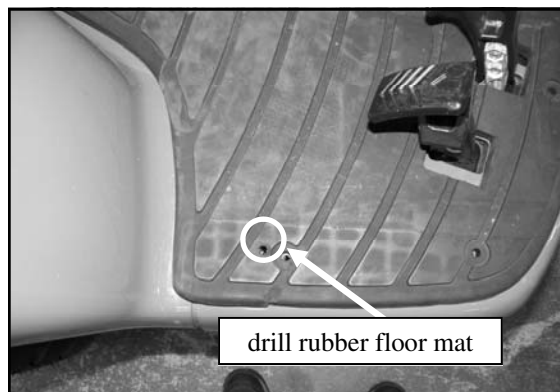

Fig. 1.4 (Right Side Shown)
**1.4** Using a nail or other sharp object, mark the hole locations for the bolts removed in step 1.2b in the rubber floor mat. Drill the rubber floor mat out to 7/16". See Fig. 1.4